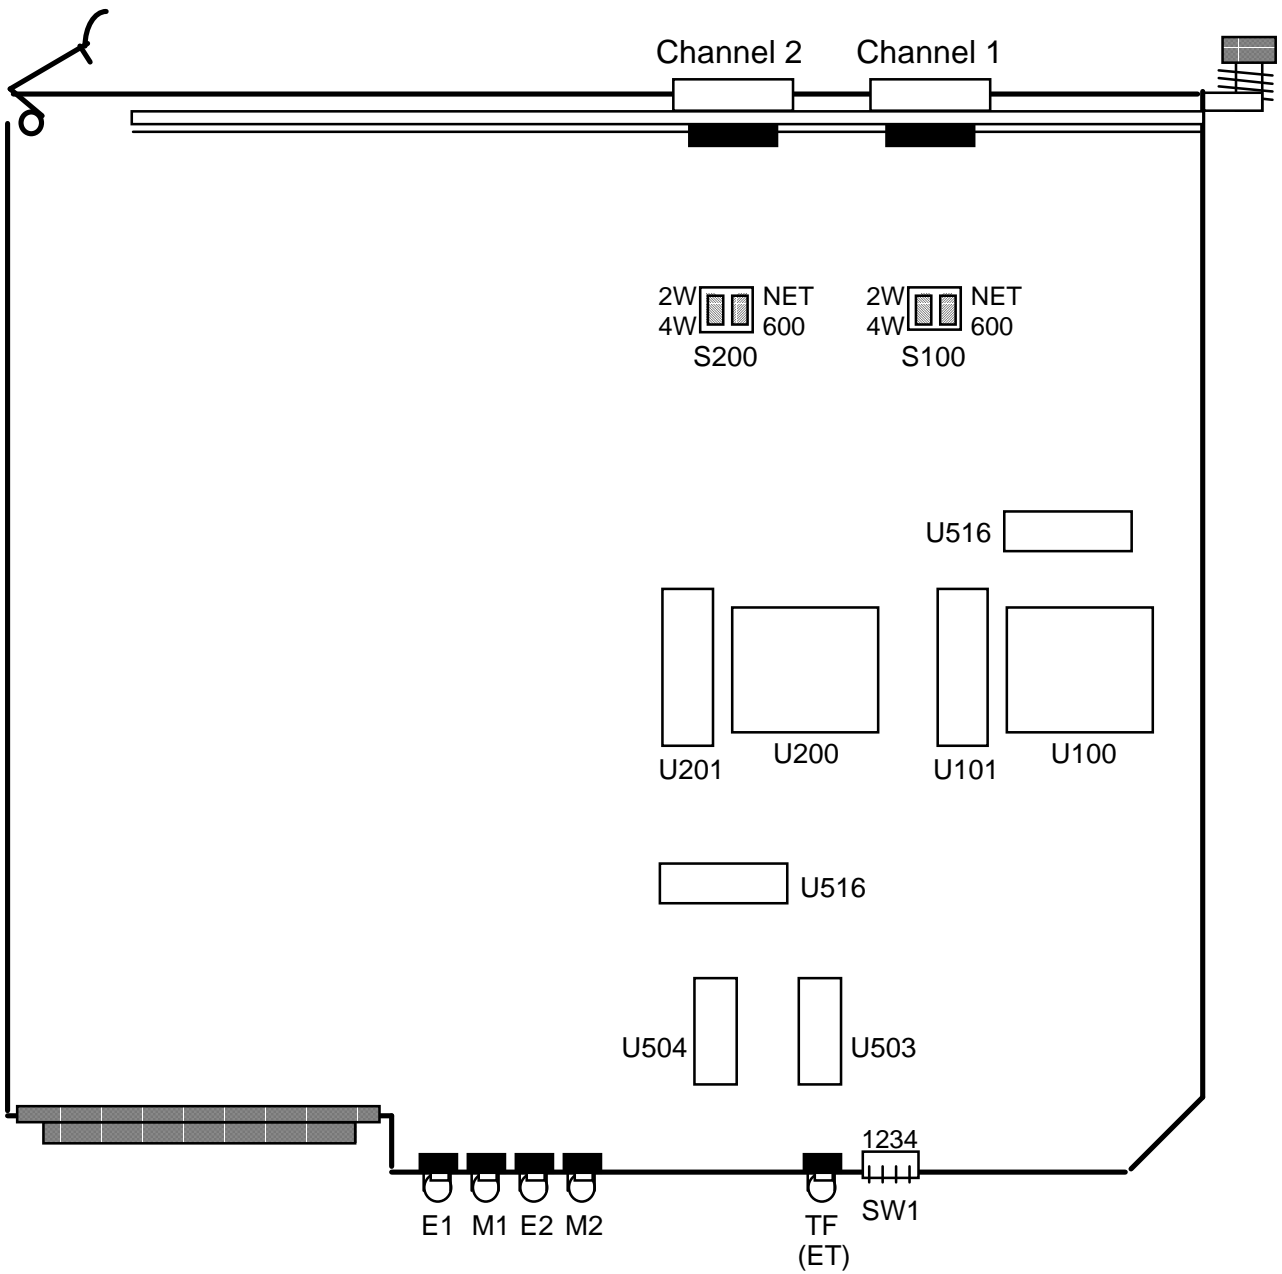

Figure 1-1 TVF & ETVF Switch and F/W positions.
The (E)TVF has three switches: SW1, S100 and S200. The (E)QVF has five switches: SW1, S100, S200, S300 and S400. (Refer to Figures 1-1 and 1-2).